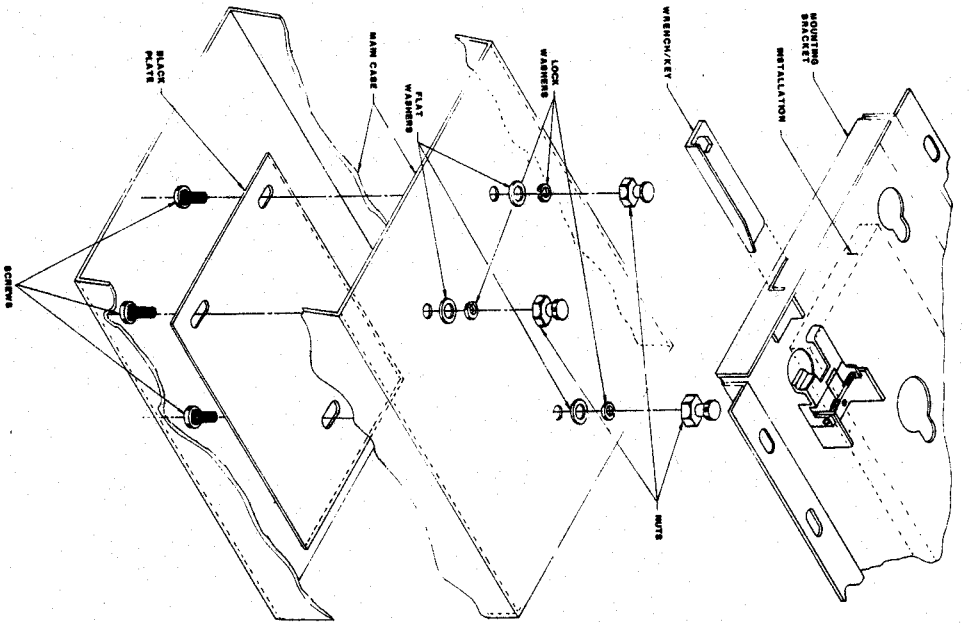

FIGURE 6. INSTALLATION USING THE CMB10 MOUNTING BRACKET (OPTION)
Refer to Figure 6 for the following procedure.
10. The transceiver is locked in place and can only be detached using the wrench/key provided. Insert the wrench/key on the slot as shown in Figure 6. The transceiver can now be detached by simply sliding the the nuts off the mounting bracket.